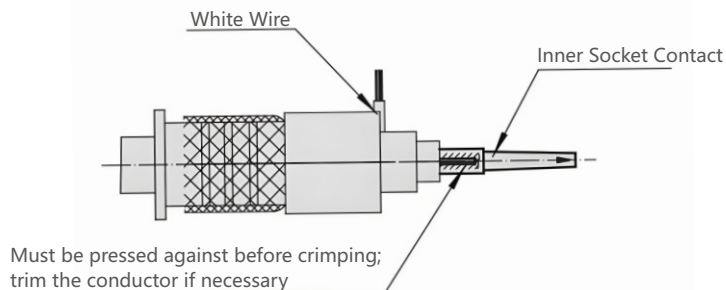

Figure3.10
- ⑤ As shown in Figure 3.10, proceed as follows: a. Slide the socket contact onto the blue wire. The conductor must be visible through the observation hole on the internal socket contact. b. Crimp the contact using tool M22520/2-01 and locator K709.